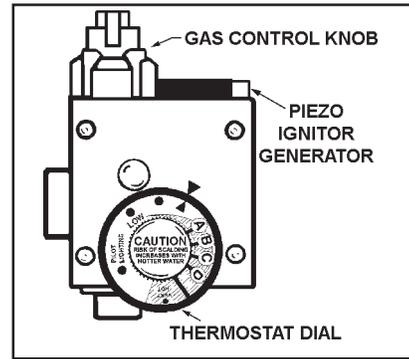

FIGURE 15.
**HOTTER WATER CAN SCALD:** Water heaters are intended to produce hot water. Water heated to a temperature which will satisfy space heating, clothes washing, dish washing, and other sanitizing needs can scald and permanently injure you upon contact. Some people are more likely to be permanently injured by hot water than others. These include the elderly, children, the infirm, or physically/mentally handicapped. If anyone using hot water in your home fits into one of these groups or if there is a local code or state law requiring a certain temperature water at the hot water tap, then you must take special precautions. In addition to using the lowest possible temperature setting that satisfies your hot water needs, a means such as a mixing valve, shall be used at the hot water taps used by these people or at the water heater. Mixing valves are available at plumbing supply or hardware stores, see Figure 2. Follow manufacturer's instructions for installation of the valves. Before changing the factory setting on the thermostat, see Figures 15 and 16.